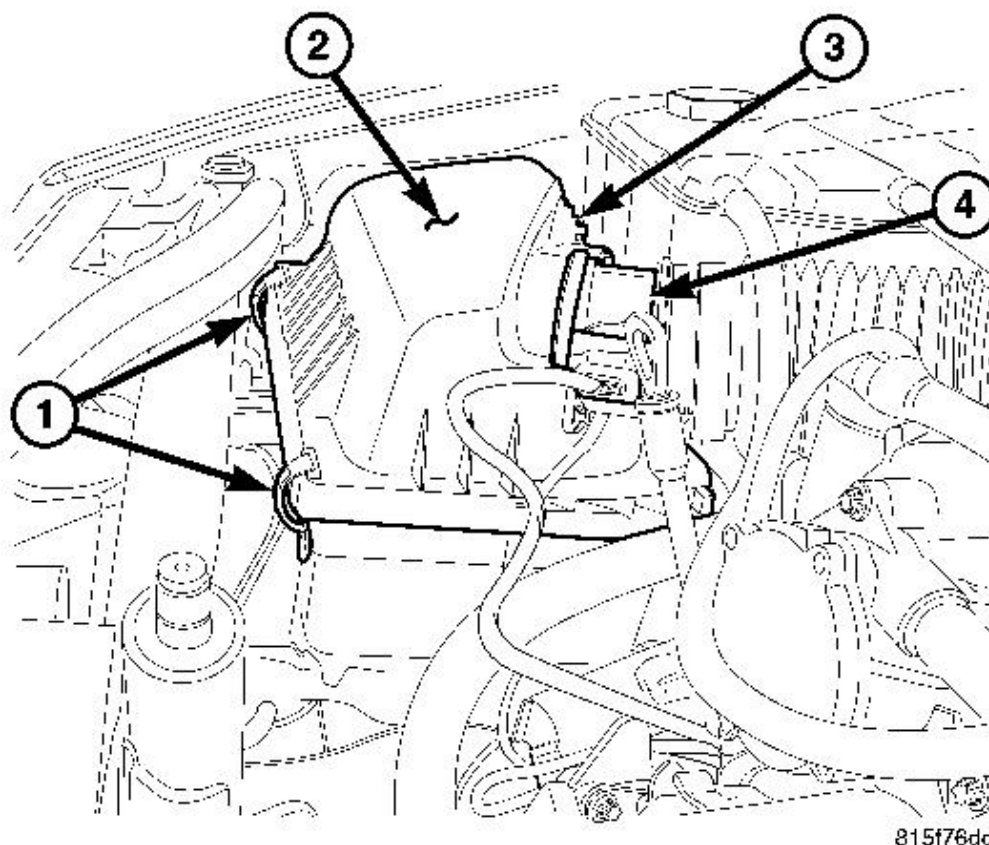

Fig. 56: Air Cleaner Cover And Components
4. Position housing cover (2) into housing locating tabs.
5. Pry up spring clips (1) and lock cover (2) to housing.
7. Connect the MAF (4) and air pressure sensor (3) wire harness connectors. See **Fig. 56**.